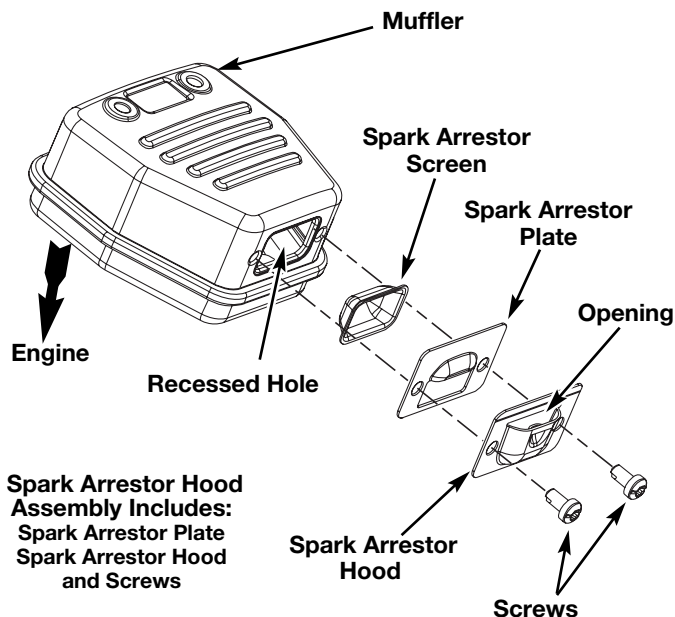

Fig. 30
2. Locate the muffler, but do not remove it. Find the two (2) screws on the bottom of the muffler (Fig. 30). These two screws hold the Spark Arrestor Hood Assembly and the spark arrestor screen to the bottom of the muffler. Remove the two (2) screws using either a torx #20 or flat blade screwdriver.
6. Place the spark arrestor plate on top of the spark arrestor with the “raised” side up and the opening facing towards the engine (Fig. 30).
7. Place the spark arrestor hood on top of the spark arrestor plate with the “raised” side up and the opening facing AWAY from the engine (Fig. 30). Verify that the exhaust will be directed AWAY from the engine.